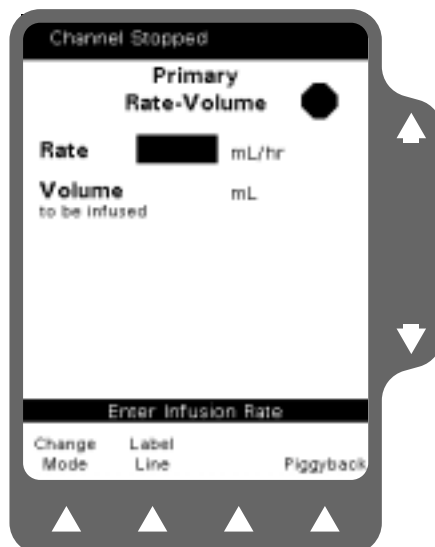
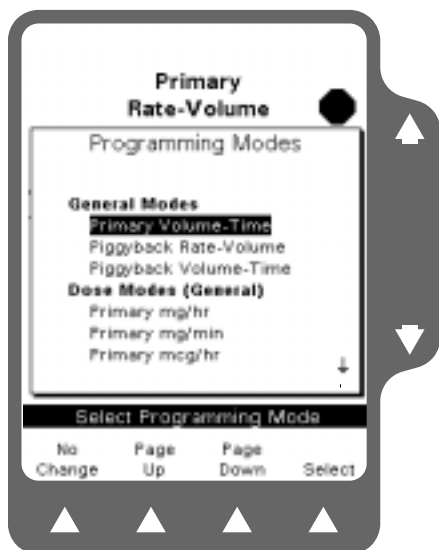

Figure 5-5 Primary Programming Screen
Figure 5-6 Programming Modes
1. If the pump is running, press the **STOP** key to stop the pump. Press the **Primary** soft key to access the Primary Programming screen (Figure 5-5).
2. From the Programming screen, press the **Change Mode** soft key (Figure 5-5) to display the available modes (Figure 5-6).